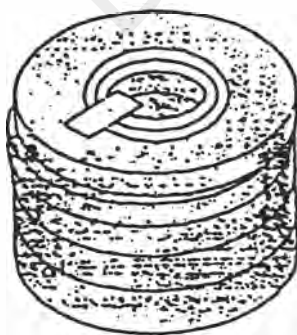

Fig. 6-18 Do not stack grinding wheels flat.
(1) Do not let oil or grease come into contact to the grinding wheel. Oil soaked grinding wheel will lose their grinding contact surface and slide during grinding. Also, this will significantly shorten their lifespan.
(2) Do not stack the grinding wheels flat as in Fig. 6-18